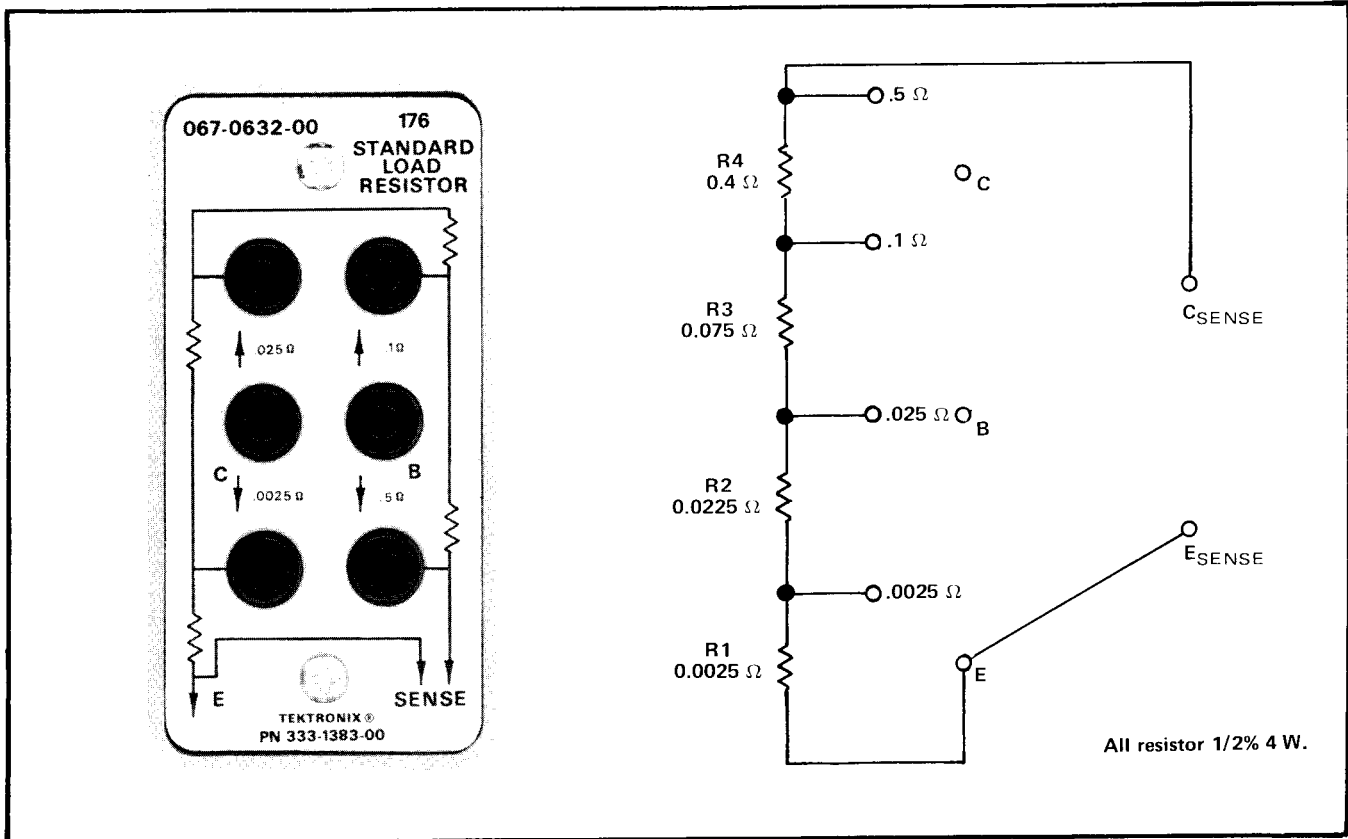

Fig. 5-1. 176 Standard Load Resistor.
2. 176 Standard Load Resistor (Tektronix Part Number 067-0632-00). A circuit diagram for this fixture including its resistor values and tolerances is given in Fig. 5-1.